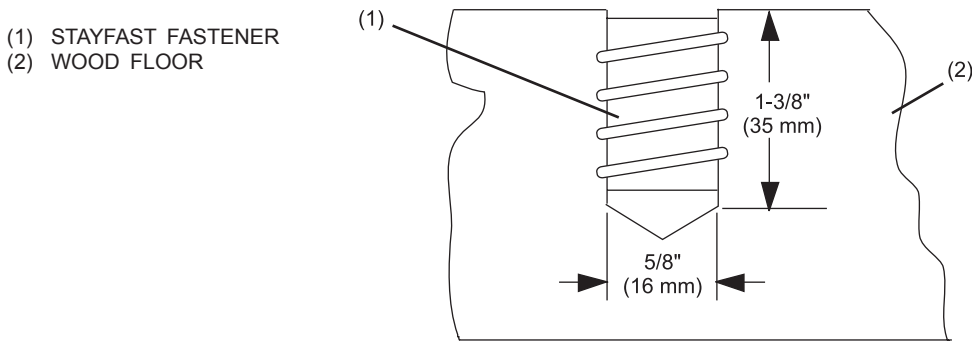

Figure 4
2. Drill $5/8''$ (16 mm) holes, $1-5/16''$ (33 mm) deep at the marked locations. The hole must be slightly deeper than the length of the fastener. *Figure 4.*
3. Align the fastener with the drilled hole and using a 10 mm hex drive wrench, screw the fastener into the wood floor until its top surface is slightly below the top surface of the floor. *Figure 4.*